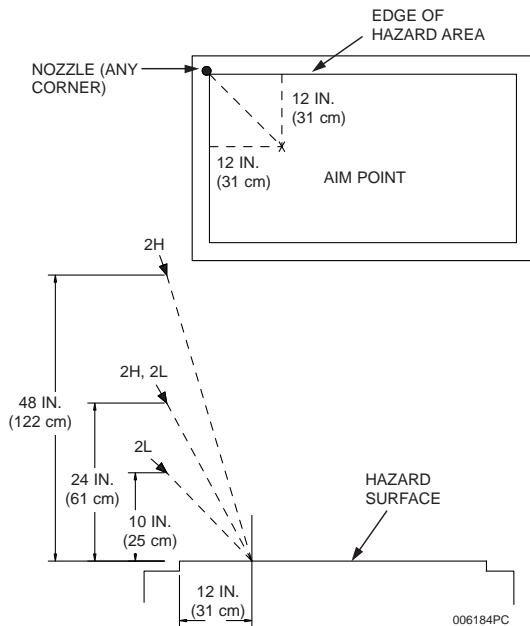

Figure 3-9.
The 2H nozzle, Part No. 551028, is used for high proximity griddle protection. This nozzle is a two (2) flow nozzle. The nozzle must be located **above any corner** of the hazard surface, 24 in. to 48 in. (61 to 122 cm) above the cooking surface of the appliance and aimed at a point 12 in. (31 cm) over and 12 in. (31 cm) in from the corner below the nozzle. See **Figure 3-9**.
The 2L nozzle, Part No. 551027, is used for low proximity griddle protection. This nozzle is a two (2) flow nozzle. The nozzle must be located **above any corner** of the hazard surface, 10 in. to 24 in. (25 cm to 61 cm) above the cooking surface of the appliance and aimed at a point 12 in. (31 cm) over and 12 in. (31 cm) in from the corner below the nozzle. See **Figure 3-9**.